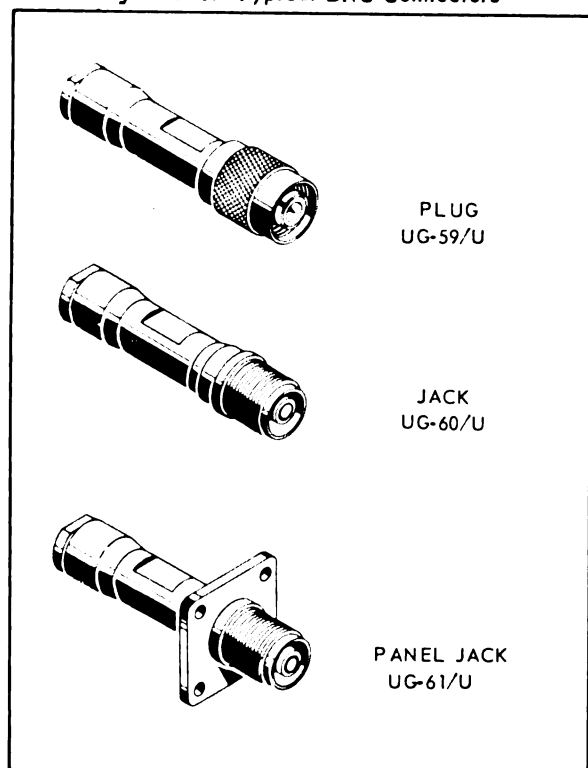

Figure 4-2. Typical HN Connectors
b. HN Series. See figure 4-2. A high voltage (up to 5,000 volts), threaded coupling connector used with medium size coaxial cables.